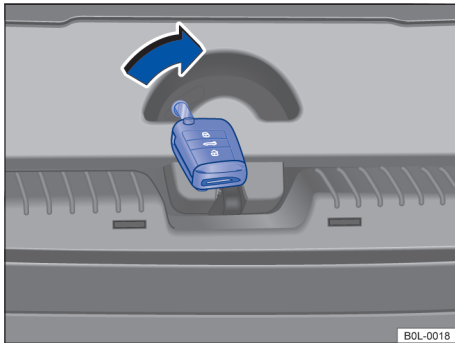

Fig. 51 Luggage: Open the tailgate lock
- Insert the key head into the circular notch on the tailgate lock and push the unlocking lever → Fig. 51 in the direction of the arrow while pushing the tailgate outward until it opens.